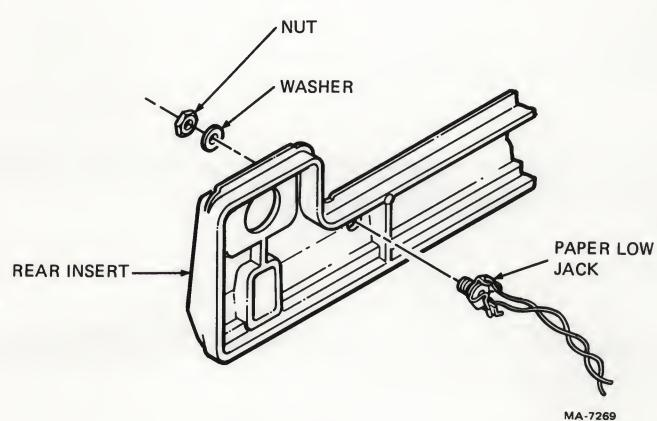

Figure 8-8 Attaching Paper Low Jack to Rear Insert
8. Remove the rear insert (Figure 8-8).
9. Locate the paper low jack and remove the attached nut and washer (Figure 8-8).
10. Insert the paper low jack through the rear insert and secure it using the nut and washer removed during the previous step (Figure 8-8).